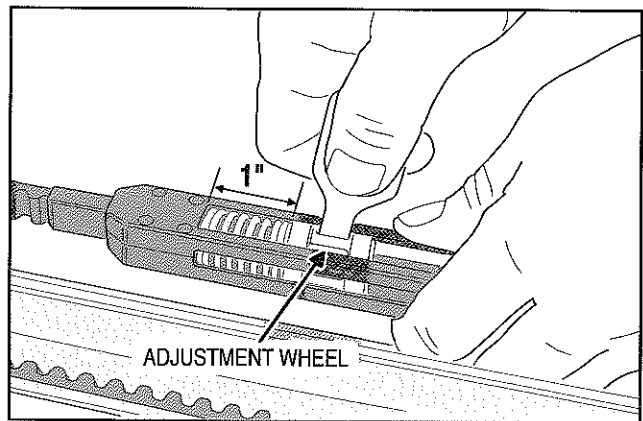

Figure 1 Belt tension
- A** Check the belt tension (**Figure 1**).